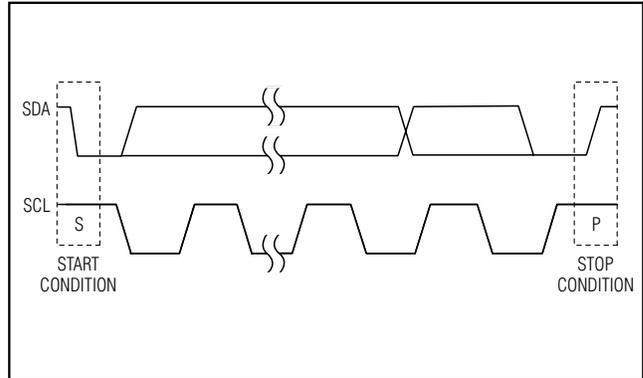
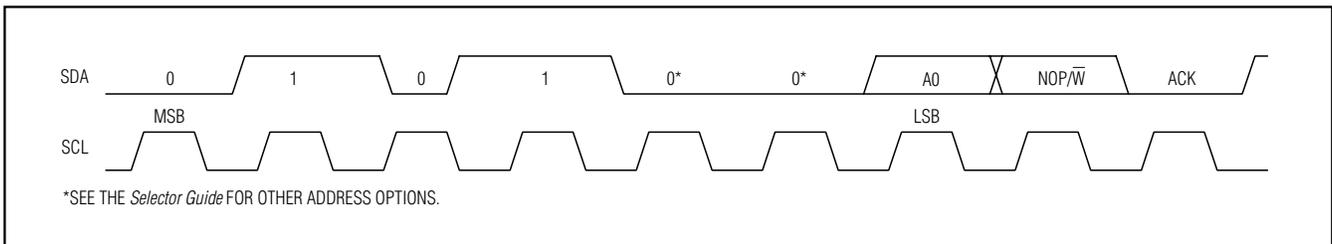
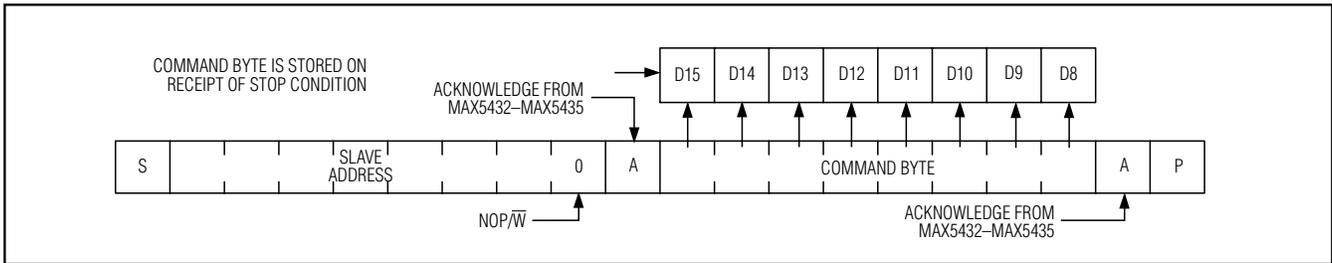

Figure 3. Start and Stop Conditions
Figure 4. Slave Address
Figure 7. Command Byte Received
Each transmission consists of a START (S) condition (Figure 3) sent by a master, followed by the MAX5432–MAX5435 7-bit slave address plus the 8th bit (Figure 4), 1 command byte (Figure 7) and 1 data byte, and finally a STOP (P) condition (Figure 3).
high while SCL is high. The bus is then free for another transmission (Figure 3).
The MAX5432-MAX5435 have a 7-bit-long slave address (Figure 4). The 8th bit following the 7-bit slave address is the NOP/ \bar{W} bit. Set the NOP/ \bar{W} bit low for a write command and high for a no-operation command.